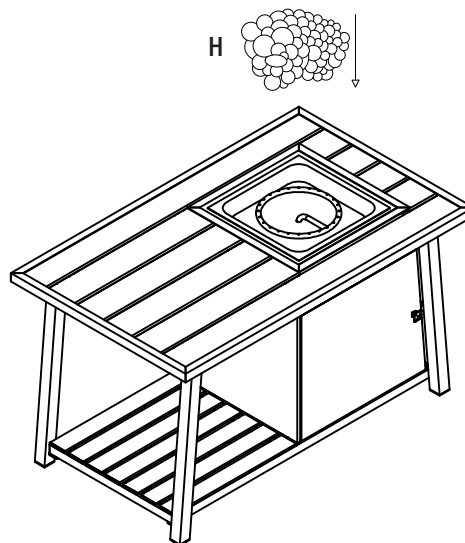

Fig. 7
- Remove the lid (B) and place rocks (H) into the fire bowl, making sure to keep the igniter block (#6) open. (Fig.7)